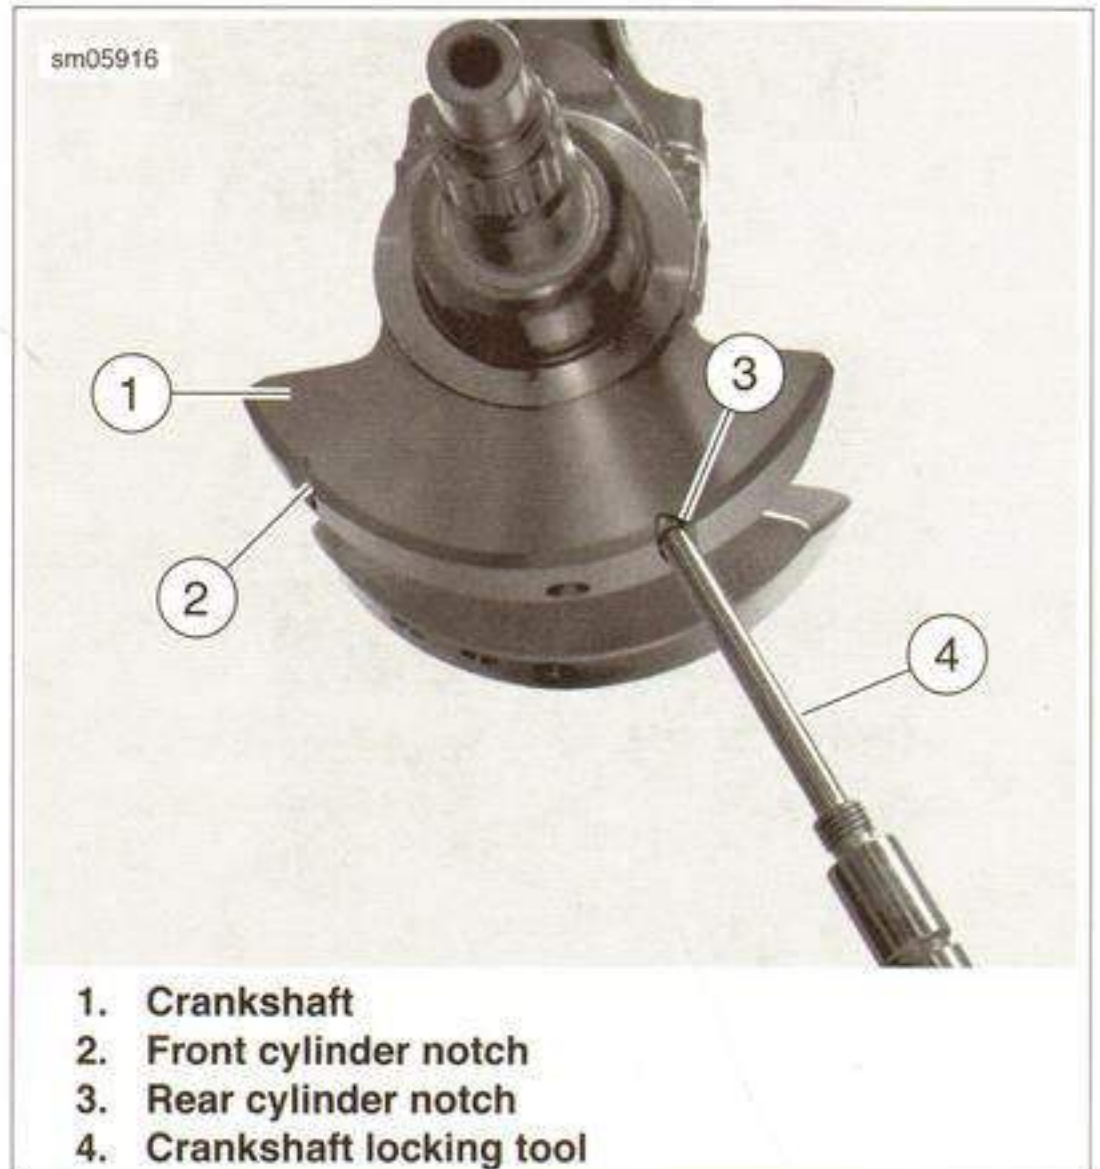

Figure 3-61. Locking Crankshaft
- c. See Figure 3-61. Thread CRANKSHAFT LOCKING TOOL (Part No. B-48858) into crankcase until end of tool engages notch in crankshaft.